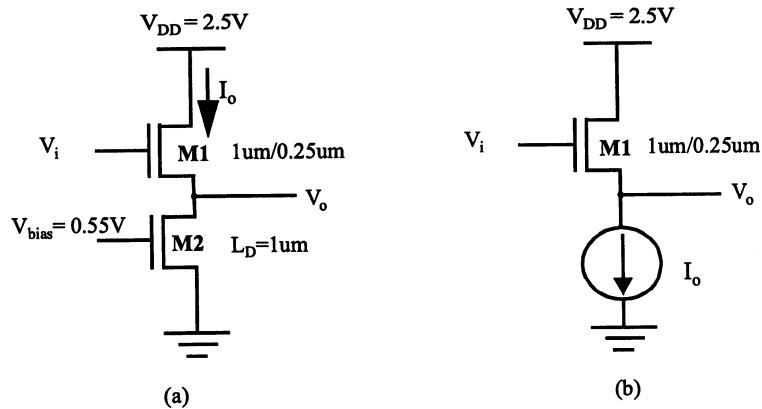

Figure 5.7 NMOS source follower configuration
9. The circuit in Figure 5.7 is known as the *source follower* configuration. It achieves a DC level shift between the input and the output. The value of this shift is determined by the current I_0 . Assume $x_d=0$, $\gamma=0.4$, $2|\phi_f|=0.6V$, $V_{T0}=0.43V$, $k_n'=115\mu\text{A}/\text{V}^2$ and $\lambda=0$.
- Suppose we want the nominal level shift between V_i and V_o to be 0.6V in the circuit in Figure 5.7 (a). Neglecting the backgate effect, calculate the width of M2 to provide this level shift (Hint: first relate V_i to V_o in terms of I_o).
- Now assume that an ideal current source replaces M2 (Figure 5.7 (b)). The NMOS transistor M1 experiences a shift in V_T due to the backgate effect. Find V_T as a function of V_o for V_o ranging from 0 to 2.5V with 0.5V intervals. Plot V_T vs. V_o .